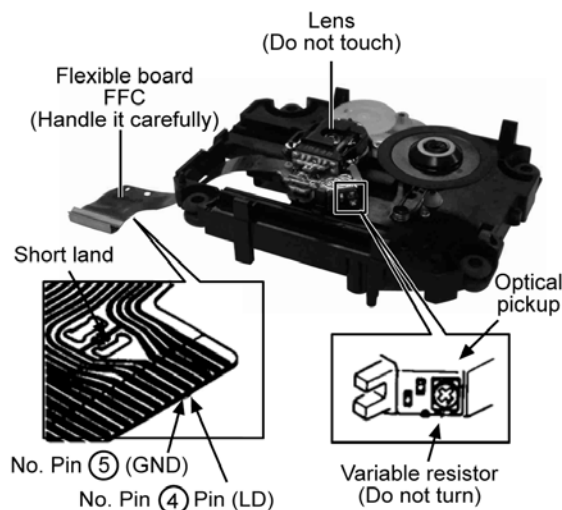
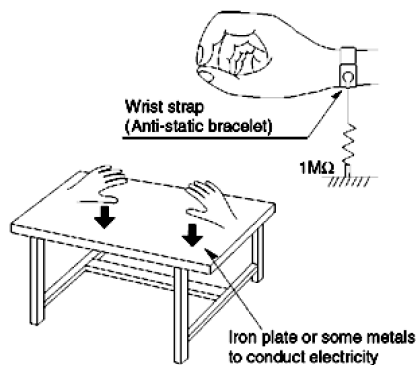

Fig 3.1
Fig. 3.2
2. Short-circuit the flexible cable of optical pickup remove from the circuit board using a short-circuit pin or clip in order to prevent laser diode from electrostatic destruction (Refer to Fig. 3.1 and Fig. 3.2)
3. Do not handle flexible cables forcibly as this may cause snapping. Handle the parts carefully (Refer to Fig. 3.1)
4. A new optical pickup is equipped with an anti-static flexible cable. After replacing and connecting to the flexible board, cut the anti-static flexible cable. (Refer to Fig. 3.1)
Use the anti-static wrist strap to discharge the static electricity accumulated in your body. (Refer to Fig. 3.2)
Place a conductive material (conductive sheet) or ironboard where optical pickup is placed. (Refer to Fig. 3.2)